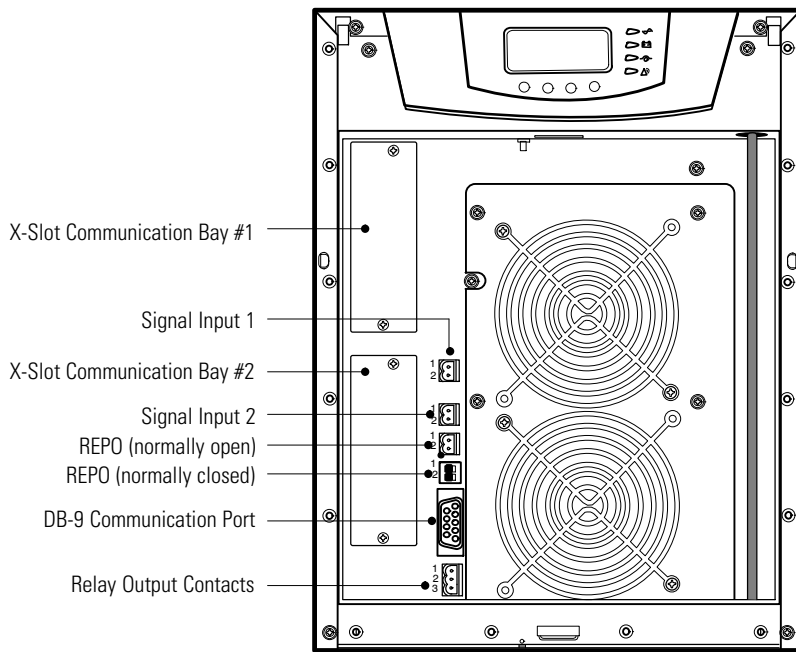
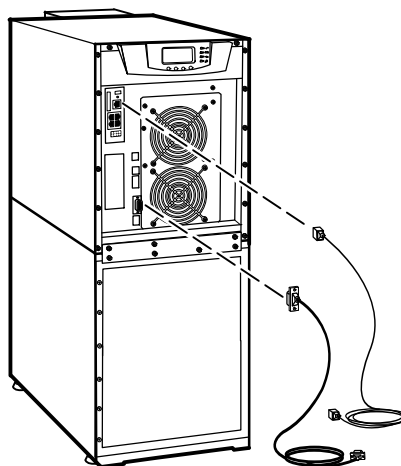
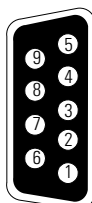

Figure 46. Communication Options and Control Terminals
Figure 48. Installing Communication Cables
Figure 51. Communication Port
Figure 46 shows the location of the communication options and control terminals on the UPS.
2. Install the appropriate X-Slot card and/or necessary cable(s) into the top cabinet (see Figure 46 and Figure 48).
The cable pins are identified in Figure 51 and the pin functions are described in Table 4. See Figure 46 on page 63 for the communication port location.
See Figure 46 on page 63 for the location of the two X-Slot communication bays.
5. Install the IRC into an open X-Slot communication bay (see Figure 48 on page 65).
4. Install the IRC into an open X-Slot communication bay (see Figure 48 page 65).